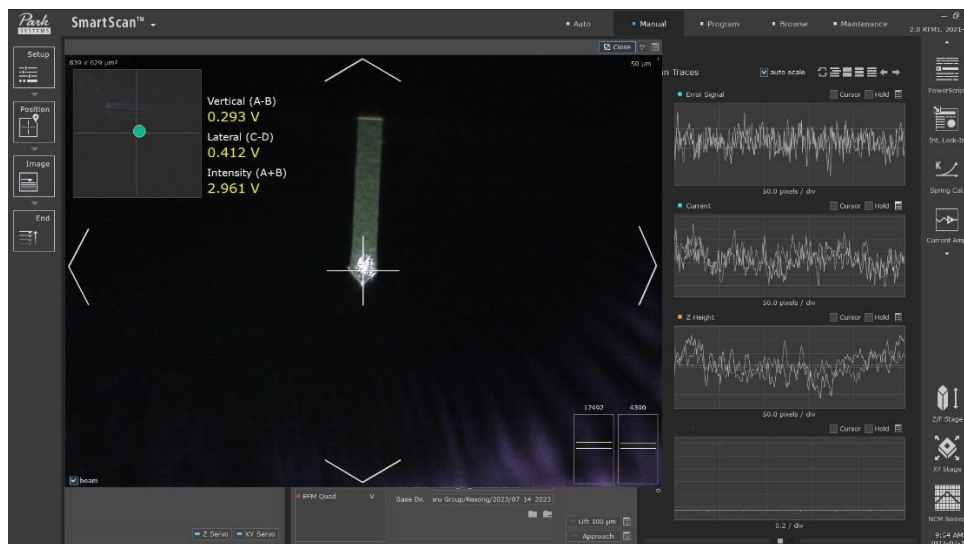

Figure 4: Laser positioning on cantilever
- Position the tip close to the end of the cantilever without decreasing the intensity. You should see an increase in laser intensity when the laser is moved over the cantilever. See **Figure 4**.